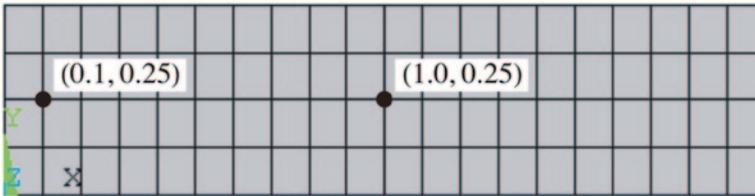

Fig. 5.36 Nodes to be picked to review the time-dependent behavior of temperature and flux
- Pick Menu appears; pick the node located at $x = 0.1, y = 0.25$ (as indicated in Fig. 5.36); click on **OK**.
- Pick the node located at $x = 1, y = 0.25$ (as indicated in Fig. 5.36); click on *OK*.
- The *Pick Menu* appears; pick the node located at $(x = 0.1, y = 0.25)$ (as indicated in Fig. 5.36); and click on *OK*.
- Pick the node located at $(x = 1, y = 0.25)$ (as indicated in Fig. 5.36); click on *OK*.